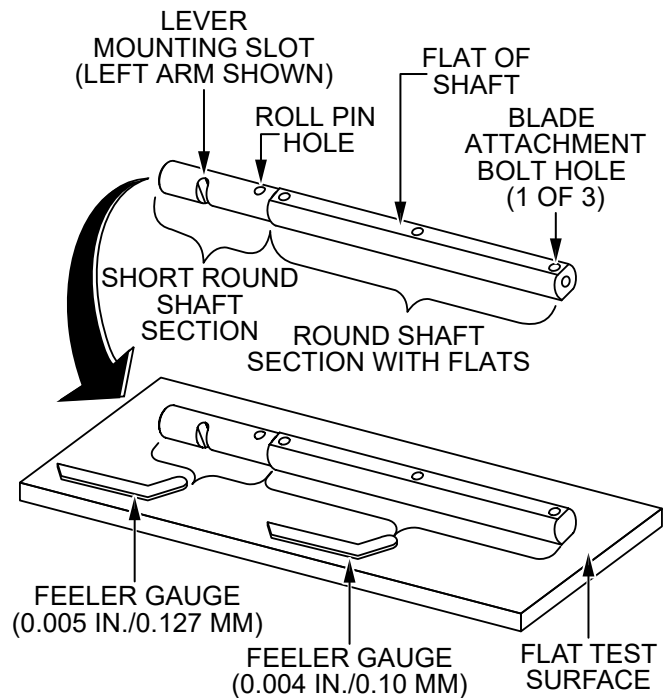

Figure 50. Checking Trowel Arm Straightness
1. Place the trowel arm onto a thick steel plate, granite slab, or any other surface which is flat and true (Figure 50).
2. Check each of the flat sides of the trowel arm (Figure 50). A **feeler gauge** of **0.004 in. (0.10 mm)** should not pass between the flat of the trowel arm and the test surface along its length on the test surface.
3. Check the clearance between the **short round shaft section** and the test surface as one of the flat sections of the arm rests on the test surface (Figure 50). Rotate the arm to each of the flat sections and check the clearance of the round shaft. Use a **feeler gauge** of **0.005 in. (0.127 mm)**. Each section should have the same clearance between the round of the trowel arm shaft and the test surface.